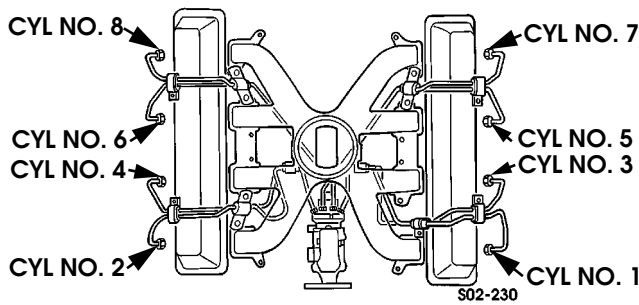

Figure 2-208: Fuel Injector Line Layout (NA Shown)
2. Attach fuel lines to injectors and pump. Verify line routing and connection (Figures 2-208 and 2-209).